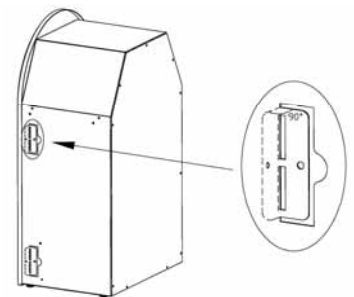

Figure 5
- Turnover four metal sheets 90 degree on fireplace shell. (Figure 5)